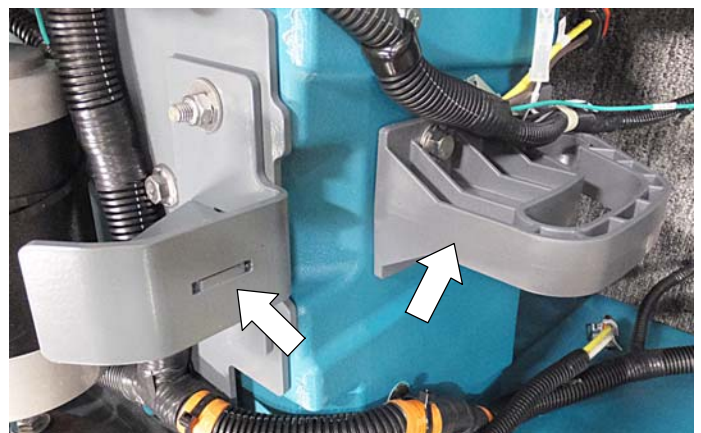

Fig. 5
5. Remove the metal stop bracket and plastic glide bracket from machine (Figure 5).